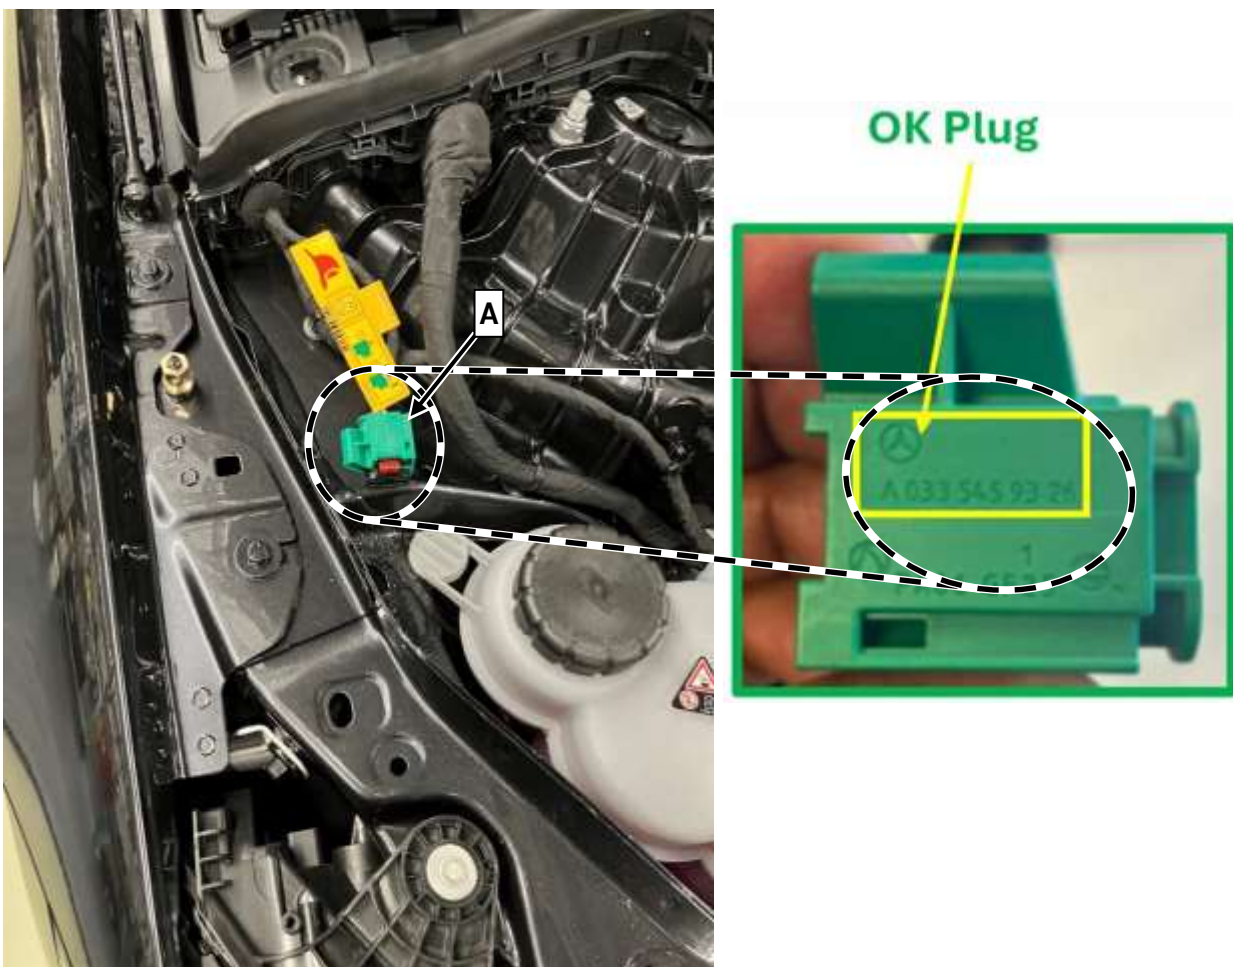

Figure 1
1. Check coupling housing of high-voltage disconnect device (A, Fig. 1) in engine compartment for correct labeling (Mercedes star and A-item number).